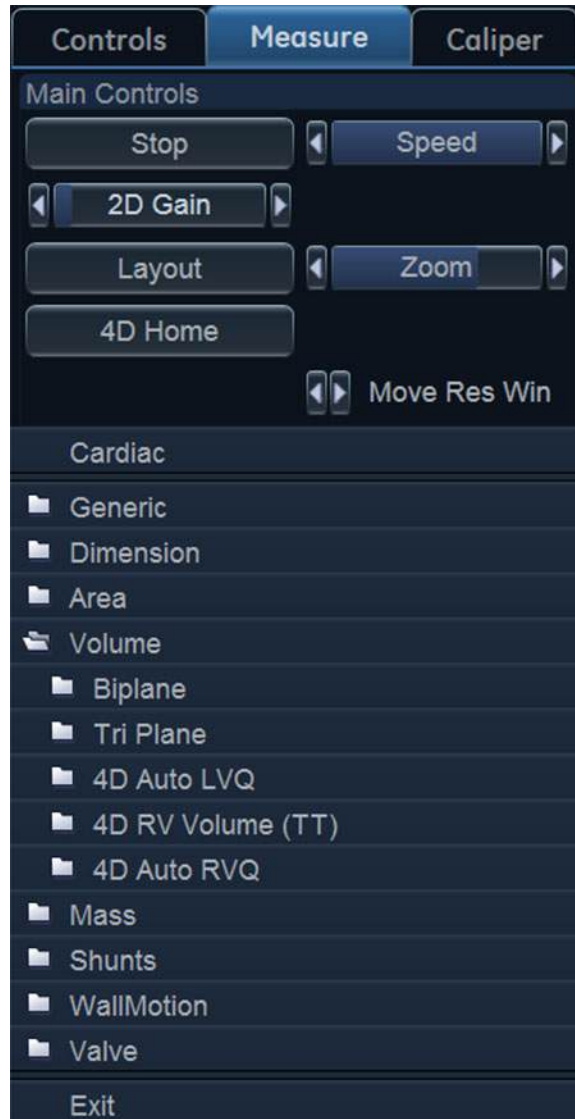

Figure 8-52. Selecting the 4D Auto RVQ tool.
3. Select **Volume > 4D Auto RVQ** (Figure 8-52)